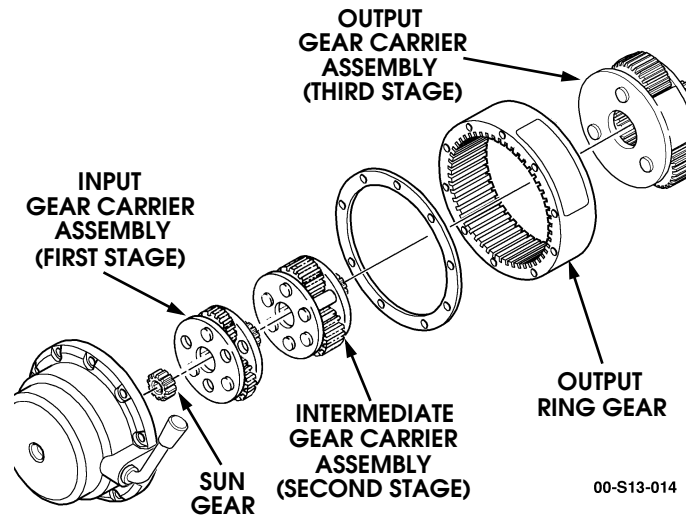

Figure 9-196: Gear Carriers
7. Inspect gear teeth, splines, and machined surfaces of output ring gear, output gear carrier, intermediate gear carrier, and input gear carrier assembly for damage. Replace any damaged parts (Figure 9-196).